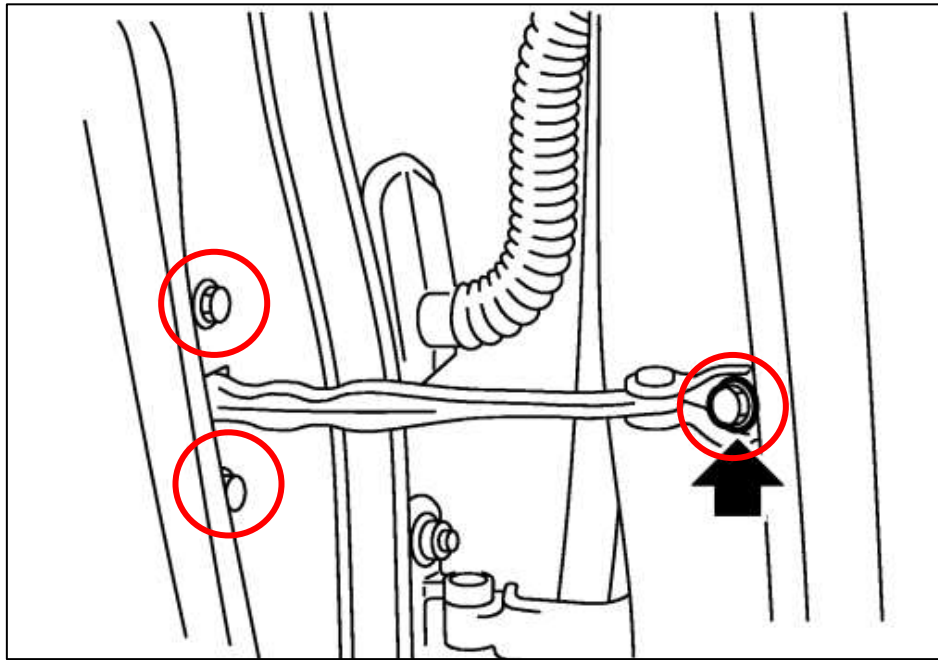

Figure 72
11. Open the door as wide as you can. Disconnect the (3) three 10mm Bolts that secure the Check Link to the vehicle. *Figure 72.*